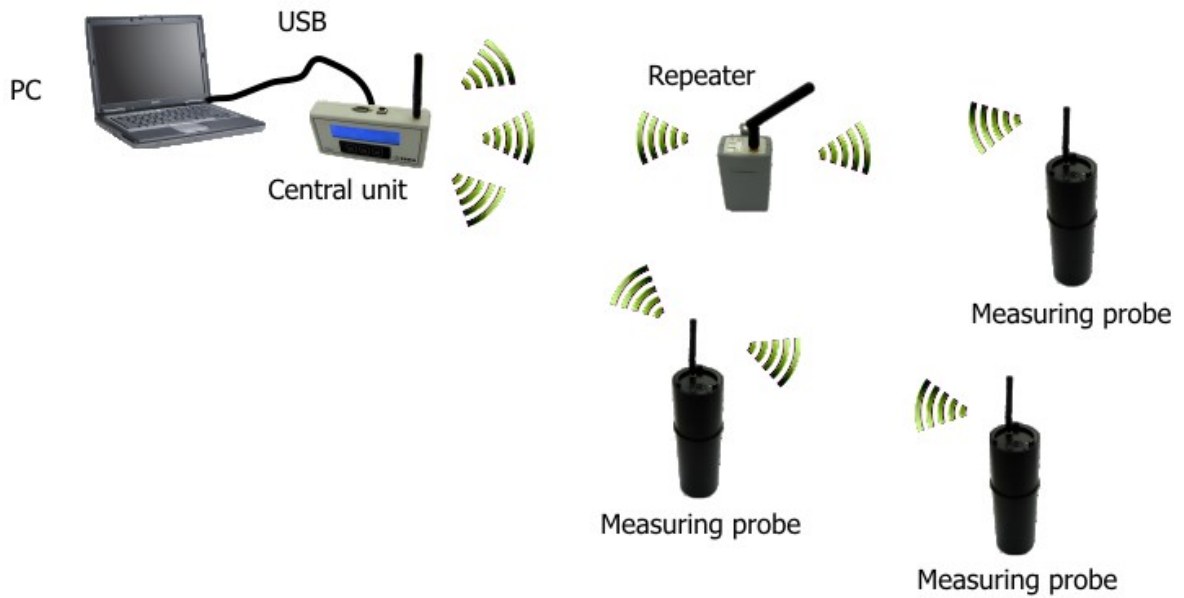

Figure 1 - TCR3 Central Unit in TERA System for Radon Concentration Measurement
- A) TERA System for Radon Concentration Measurement (Figure 1)